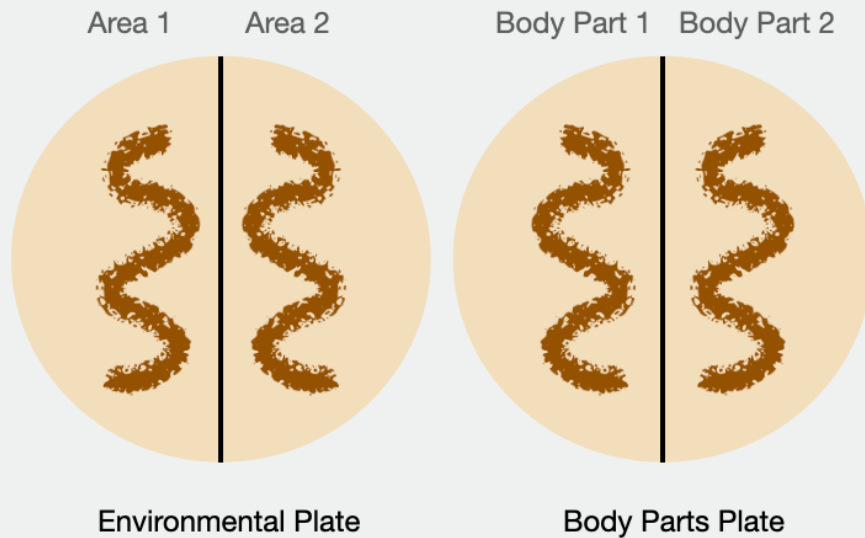

Figure 3.2: Diagram of how to prepare your environmental and body part plates
1. Choose 2 different environments to investigate. Use a sharpie to draw a line at the bottom of each agar plate to divide it into two halves, and label each half with the environment you plan to sample (Figure 3.2).